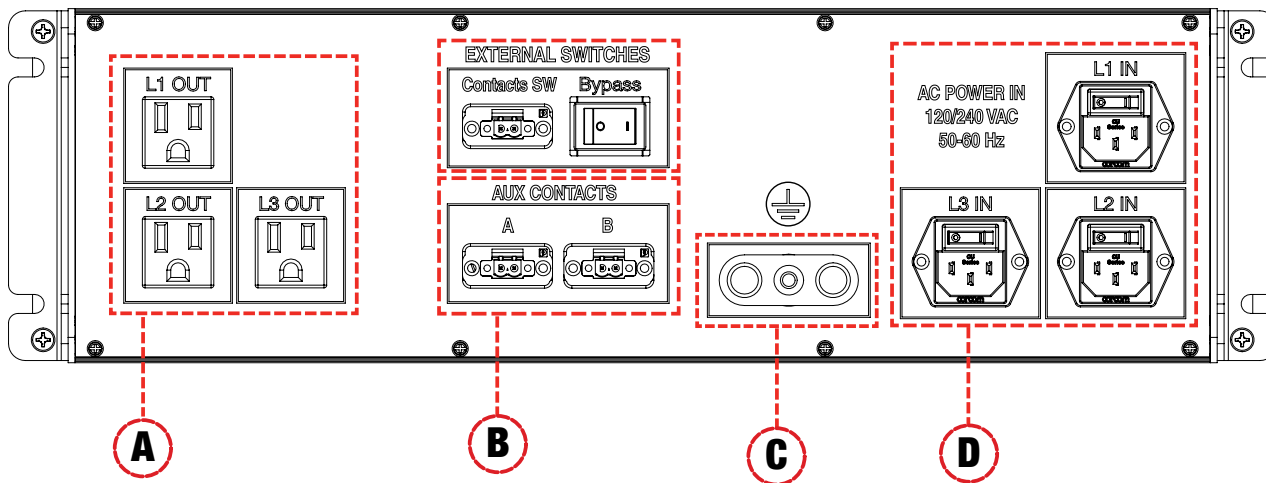

Figure 2: OP8640 safety panel, back view
- Connect the ground wire to the ground connector (see item C in Figure 2).